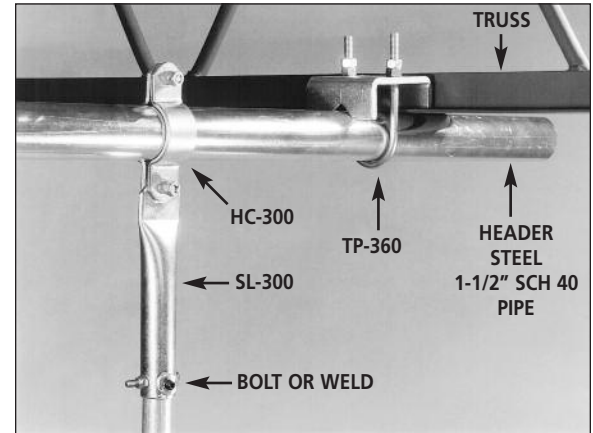

Figure 4
- **Figure 4** shows the use of standard components to hang from a trussed ceiling but not